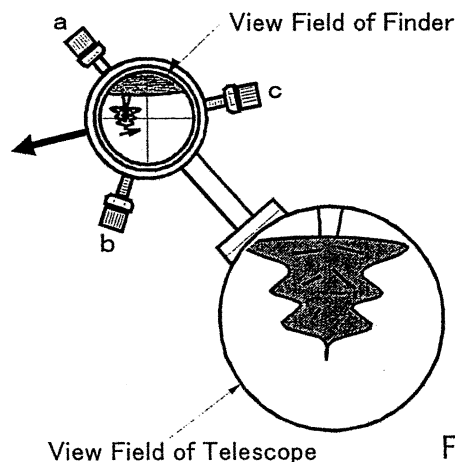

Fig. 12
The TOA-150B uses a rack-and-pinion focuser. This focuser enables the observer to focus rapidly. Turning the focuser clockwise will move the drawtube out, while turning it counter-clockwise will move the drawtube in. Refer to Fig. 12.
2. In order to move the crosshair in the direction of the arrow, first loosen screw (a) and tighten (push) the finder with screw (c). This procedure will move the crosshair in the desired direction. The top of the finder will move in the opposite direction and the object will move in the direction of the smaller arrow. Refer to Fig. 12.